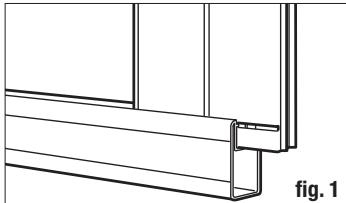

fig. 1
- Take the bottom rail and align one of the pickets with the channel in the bottom rail. Slide the picket into the channel (fig. 1).